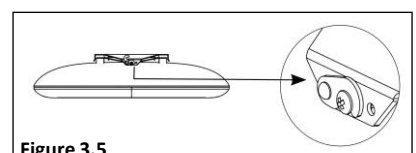

Figure 3.5
- Pivot the locking hinge back and tighten the locking screw. [Fig 3.5]